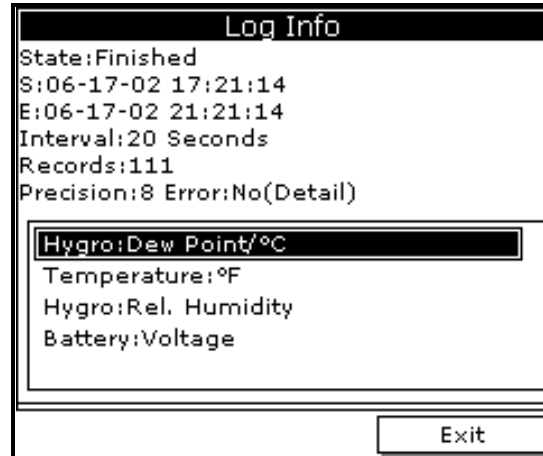

Figure 38: Log Details
4. Use the arrow key to scroll to Details and press **[ENTER]**. A screen similar to Figure 38 on page 44 appears.